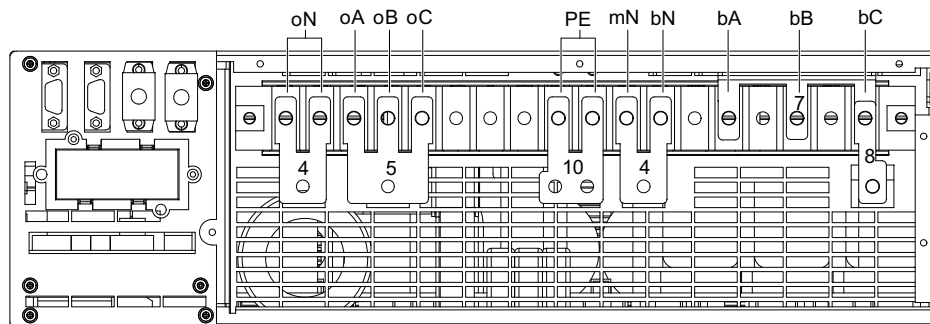

Figure 2-14 Shorted copper bar connection for the UPS I/O terminal block
2. Short two PE terminals of the UPS I/O terminal block using the shorted copper bar 10 with insulating film, short the terminal bA, bB and bC using the shorted copper bar 7, and short the terminal oA, oB and oC using the shorted copper bar 5, and then short mN and bN terminals and two oN terminals using two shorted copper bars 4, as shown in Figure 2-14.
4. Connect the shorted copper bar 8 to one end of the shorted copper bar 7 (see Figure 2-14), and connect the live line (bypass input phase A) to the shorted copper bar 8.